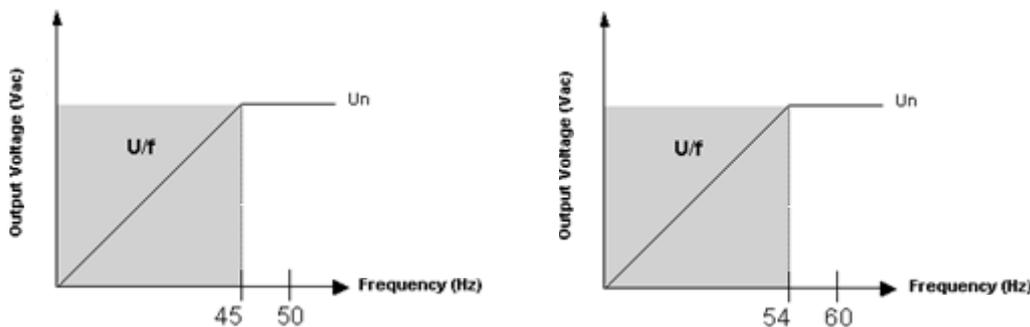

Figure 4.2: Actuation point for U/F protection
The **U/F** trimpot determines the trigger point of the U/F mode, which can be the nominal frequency (F_n) down to 1/3 of F_n , and leaves the factory adjusted to 10% below F_n . For operation in 60Hz it is adjusted to 54Hz and for operation in 50 Hz it is adjusted to 45Hz (see Figure 4.2). These values can be altered according to the needs of each application.
1. Do not set the U/F protection below 20 % of the rated alternator frequency. The configuration should be done according to Figure 4.2 to avoid problems when shutting down.